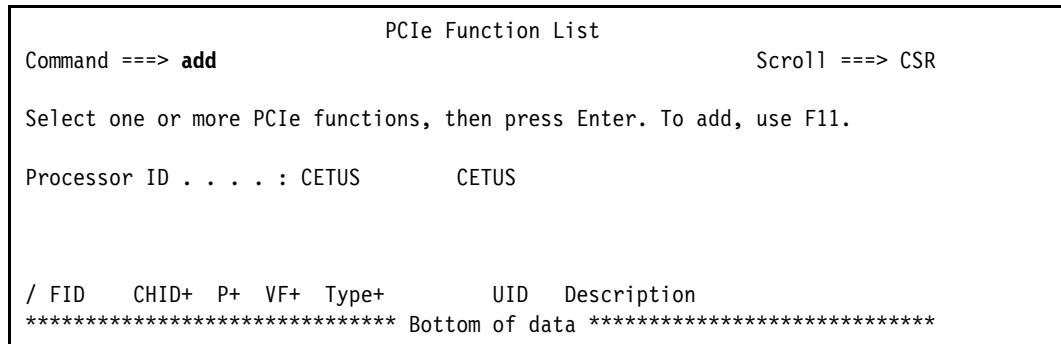

Figure 15-16 PCIe Function List: Adding PCIe functions to a processor, zEDC
3. Type **add** on the command line in the PCIe Function List panel (Figure 15-16) to add a PCIe function.